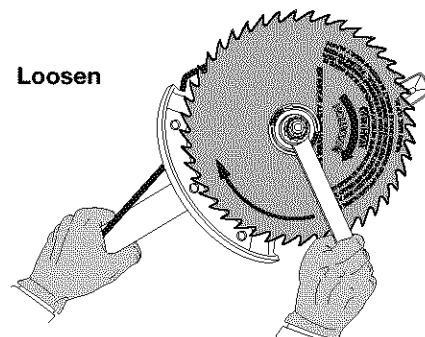

Fig. 10
2. Hold the locking rod in place by grasping it next to the boom of the unit (Fig. 10).
3. While holding the locking rod, loosen the lock nut on the blade by turning it clockwise with a 5/8 inch closed-end or socket wrench (Fig. 10).